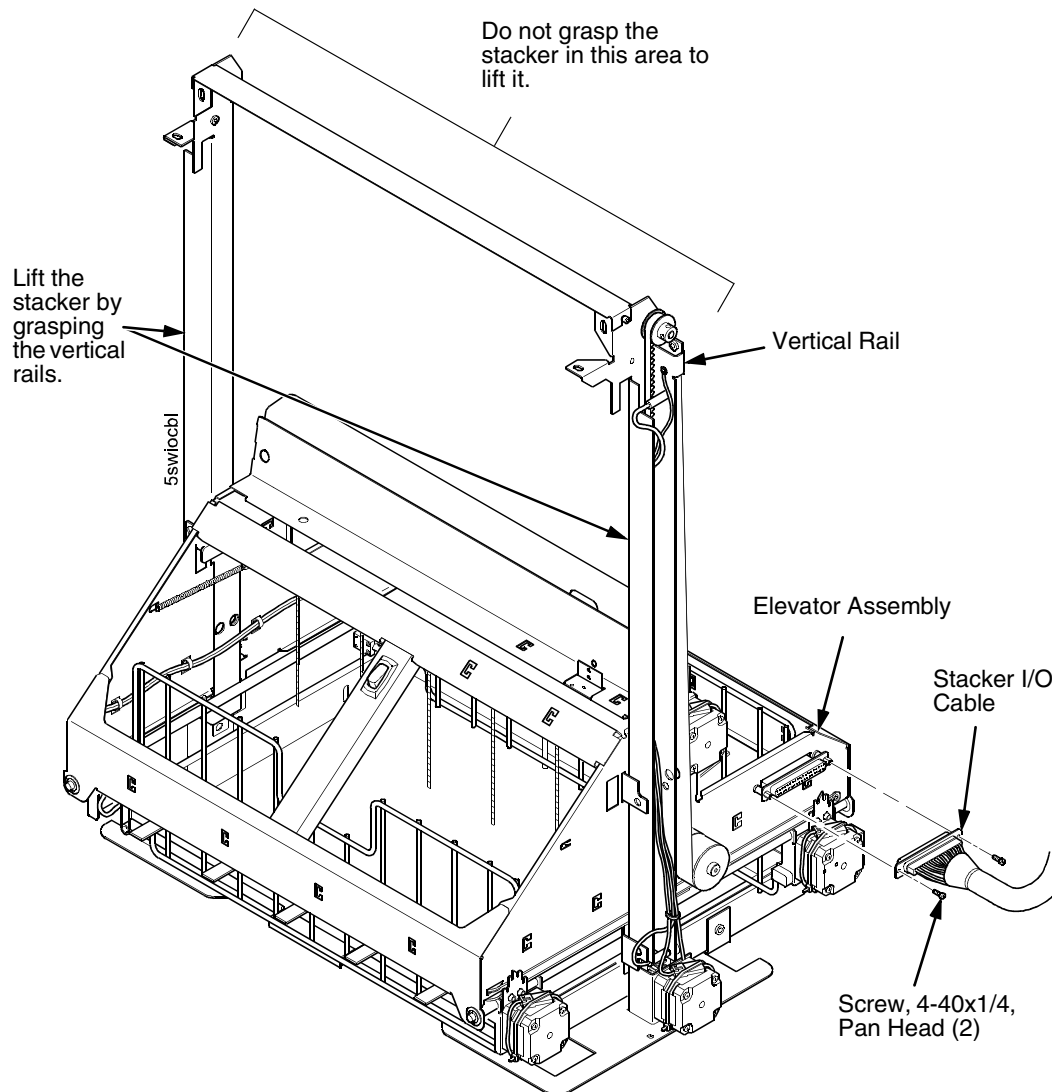

Figure 76. Disconnecting the Stacker I/O Cable
12. Remove the two 4-40 x 1/4 inch screws securing the elevator I/O cable to the elevator assembly and disconnect the stacker I/O cable. (Figure 76.)